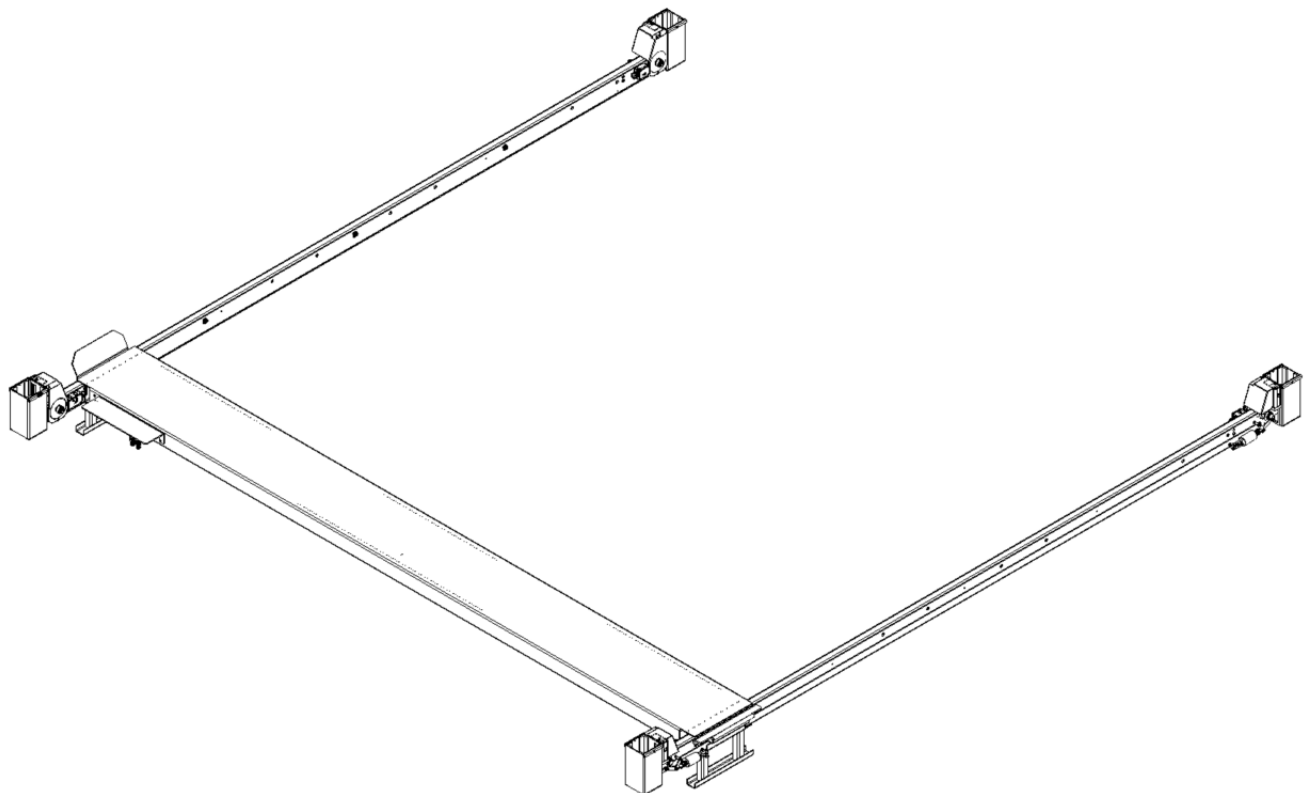

Figure 4.5 Runway above powered runway installed.
Find the wheel stop, ramp mount and m18x 2.5x140 mm bolts (4), m18 washers (4), m18 lock washer (4), and m18 x 2.5 nuts (4). Assemble as shown in figure 4.5. These parts can be found in shipping package 2. The nut and washers may be installed by placing through the window where the cables exit the runway and